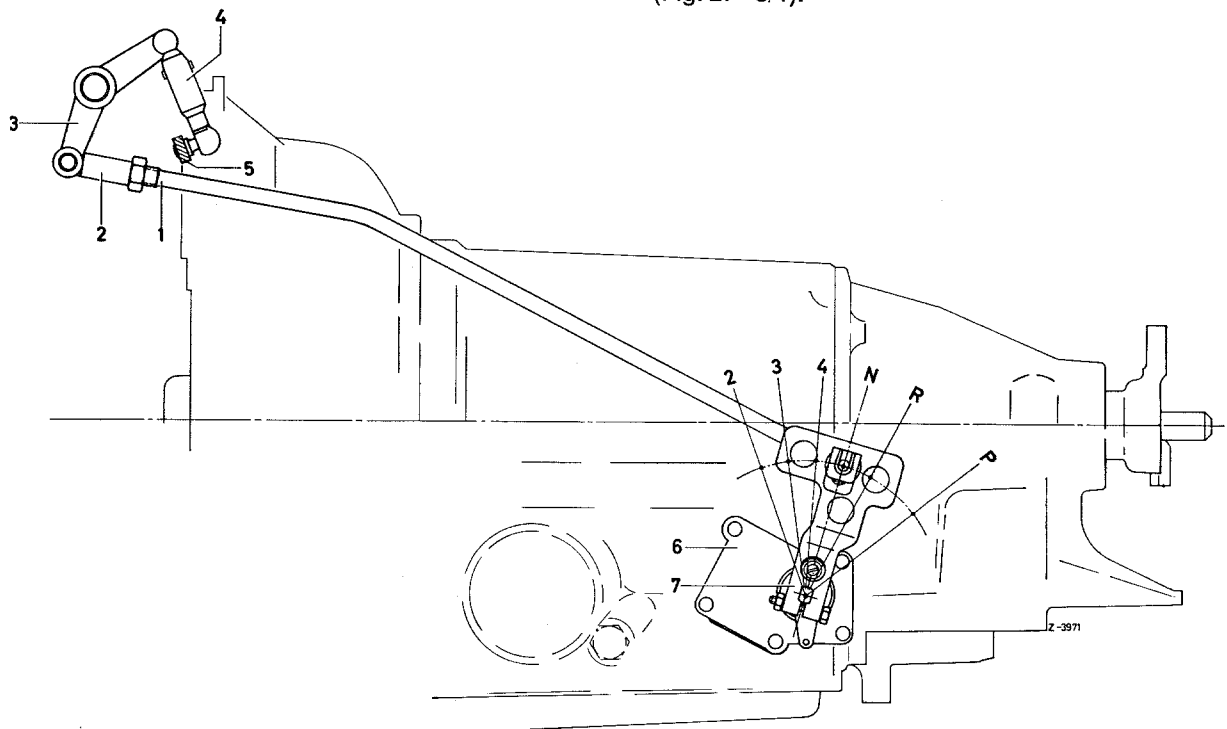

Fig. 27-3/1a
Loosen counter nut on ball socket (2). Disconnect selector rod (1) on shift bracket, place range selector lever (7) on transmission and selector lever on steering wheel to position "N." Adjust selector rod lengthwise in such a manner that the ball socket is in alignment with the ball head on the intermediate lever (3). Attach ball socket to intermediate lever, making sure that the release clearance of the selector lever in position 3 and 4 is the same. Tighten counter nut on ball socket (Fig. 27-3/1).